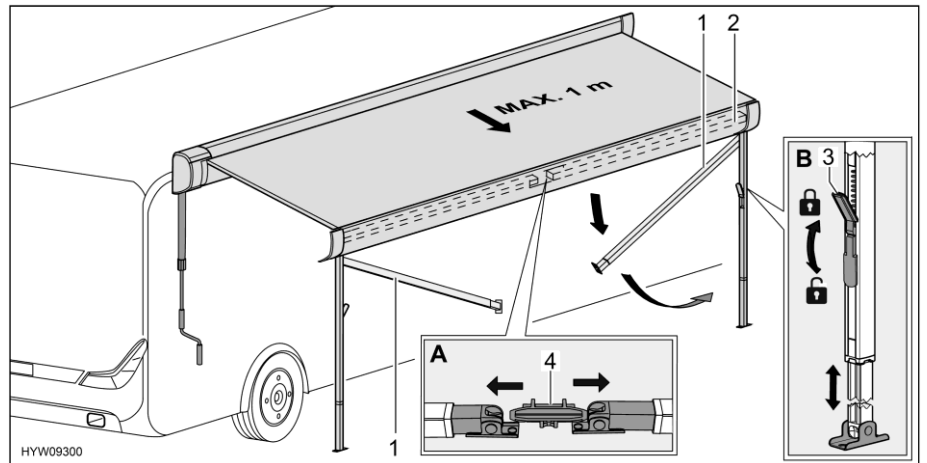

Fig. 29 Preparing support legs
- Release support legs (Fig. 29,1) from holder (Fig. 29,4) in the front bar (Fig. 29,2). In order to do this, apply slight outward pressure on the support legs (Fig. 29,A).
- Release the locks (Fig. 29,3) of the support legs. In order to do this, fold the catch lever downwards.
- Pull lower part of the support legs out to the desired length (Fig. 29,B).
- Close the locks (Fig. 29,3) of the support legs. In order to do this, fold the catch lever upwards.